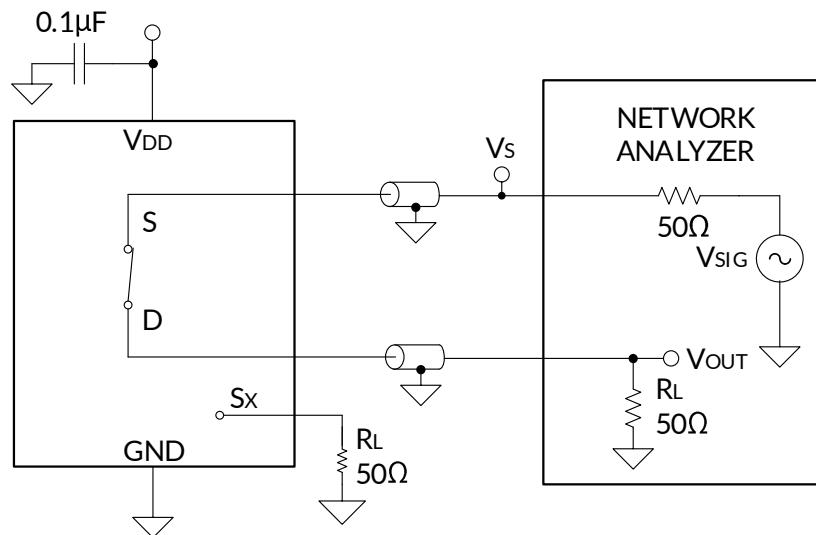

Figure 20. Bandwidth Measurement Setup
Bandwidth is defined as the range of frequencies that are attenuated by less than 3 dB when the input is applied to the source pin (S_x) of an on-channel, and the output is measured at the drain pin (D) of the device. Figure 20 shows the setup used to measure bandwidth.